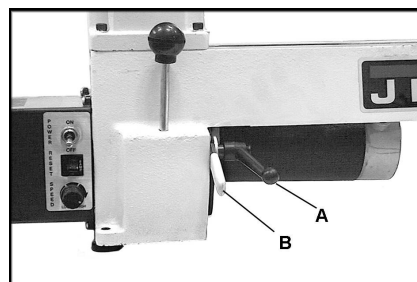

Fig 7
Take tension off the belt. Loosen the motor plate lock (A, Fig 7) and lift up motor plate handle (B).